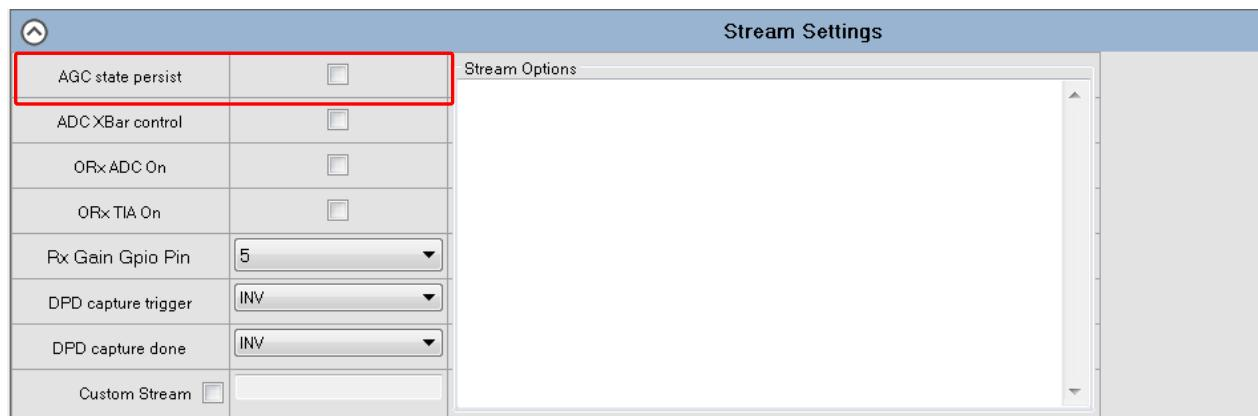

Figure 88. TES Stream Settings Control Window to Enable Rx Gain Mode Switching using GPIO
To enable Rx GPIO gain mode switching, the user needs to create a stream file using the TES with the **Rx Gain Gpio Pin** set to the desired GPIO pin as shown in Figure 88.
1. Generate the stream with the correct GPIO set to the Rx Gain GPIO tag as shown in Figure 88.